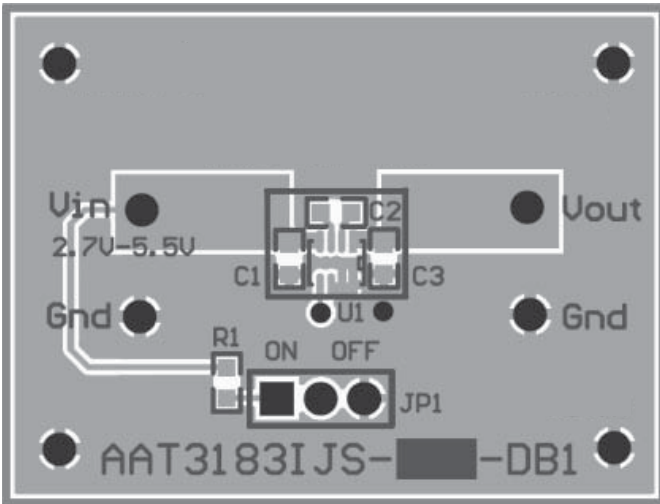
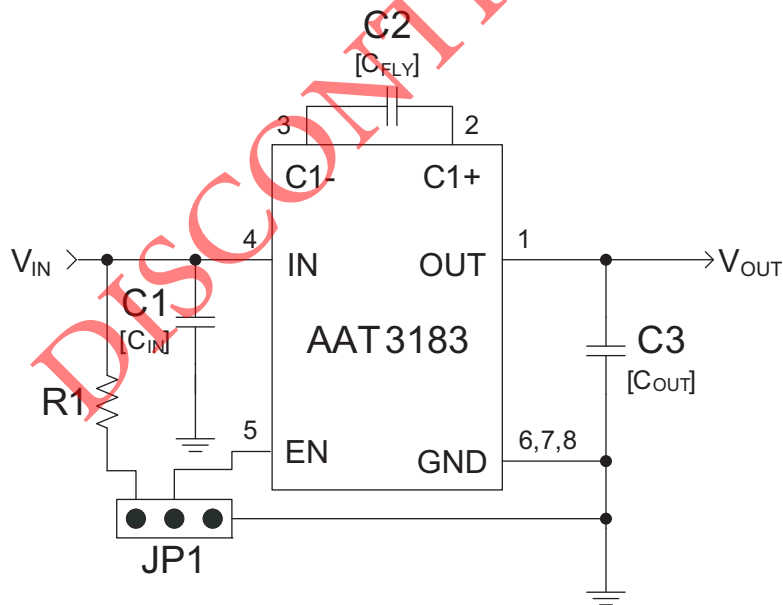

Figure 4: AAT3183 Evaluation Board Top Layer.
Figure 6: AAT3183 Evaluation Board Schematic.
3. A good example of an optimal layout for the AAT3183 is the AAT3183 evaluation board shown in Figures 4 and 5. The evaluation board schematic is shown in Figure 6.